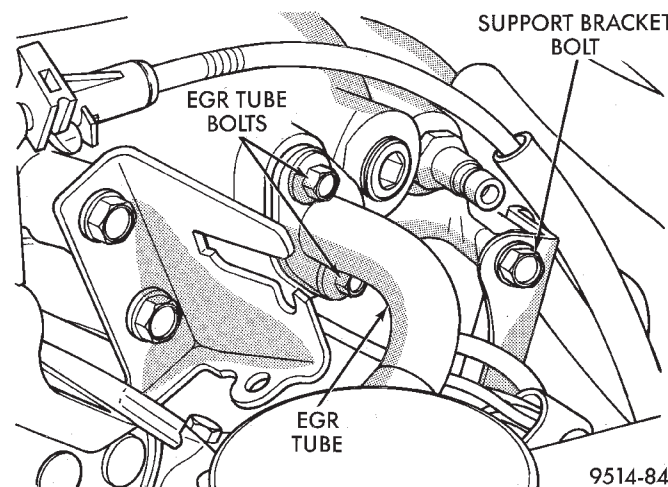

Fig. 26 EGR Tube and Right Manifold Support Bolt
(14) Remove plenum support bracket bolt located rearward of EGR tube (Fig. 26).